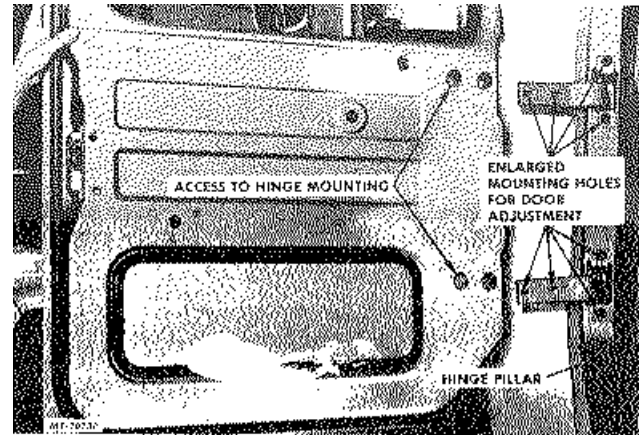

Fig. 8. Removing Door From Cab
4. Remove the four flange head hinge bolts and lift door assembly from hinges (Fig. 8).